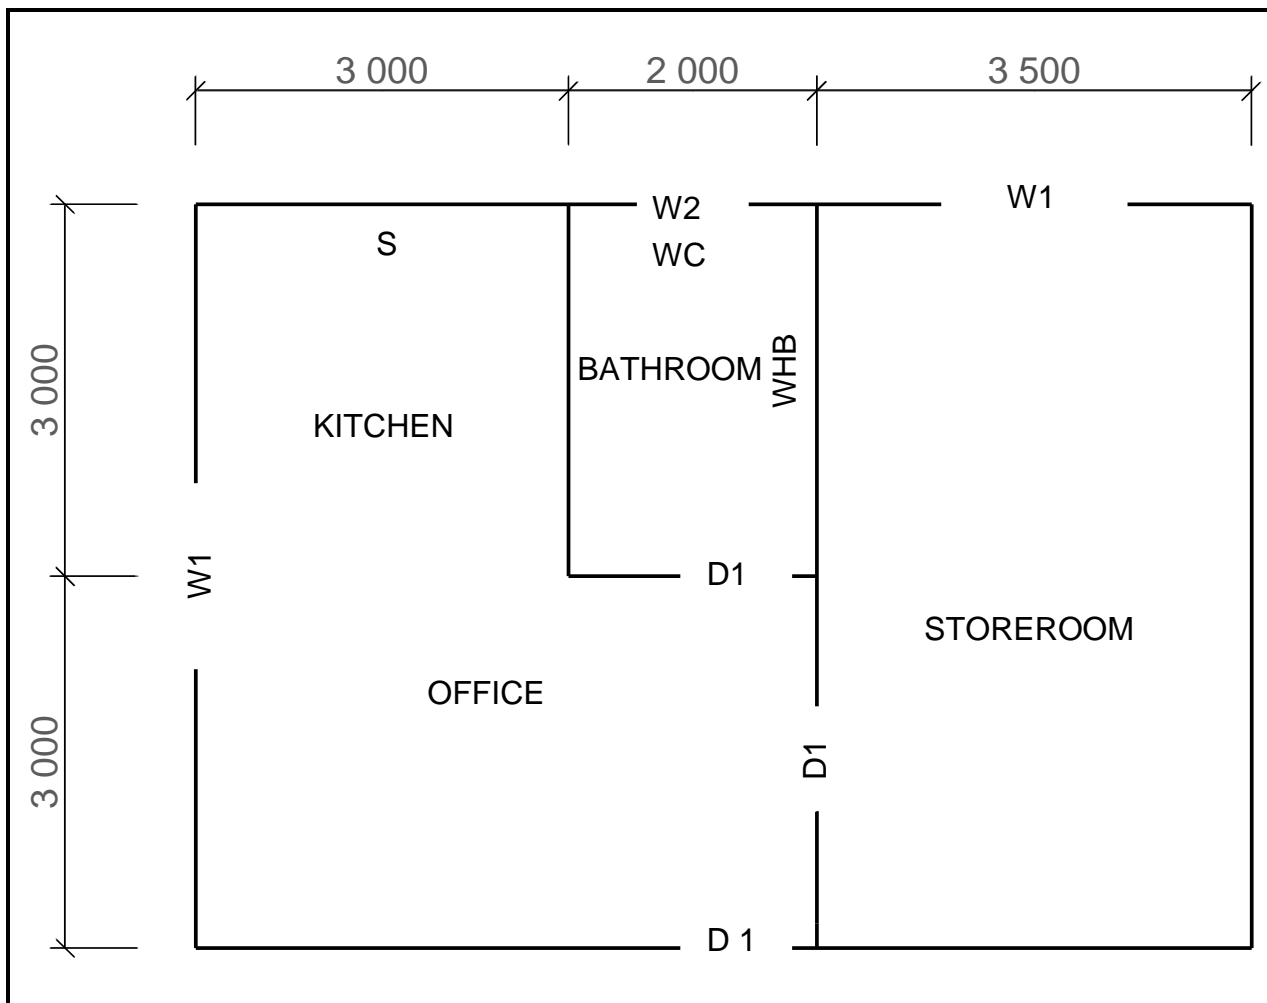

FIGURE 6.2
6.2 FIGURE 6.2 below shows a line diagram of the floor plan of an office with a storeroom.
Study FIGURE 6.2 and develop and draw, on ANSWER SHEET 6.2, to scale 1 : 50, the FLOOR PLAN of the building. Use the specifications below and on the next page. (Use the assessment criteria on ANSWER SHEET 6.2 as a guideline for your drawing.)